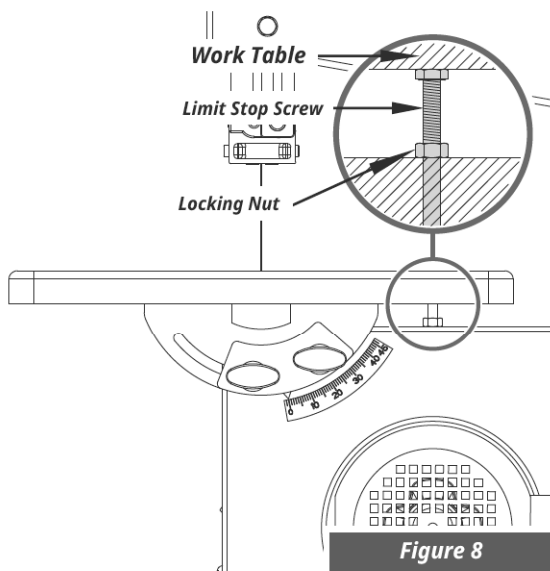

Figure 8
4. Loosen locking nut and adjust limit stop screw until it touches the working table. (See Figure 8)